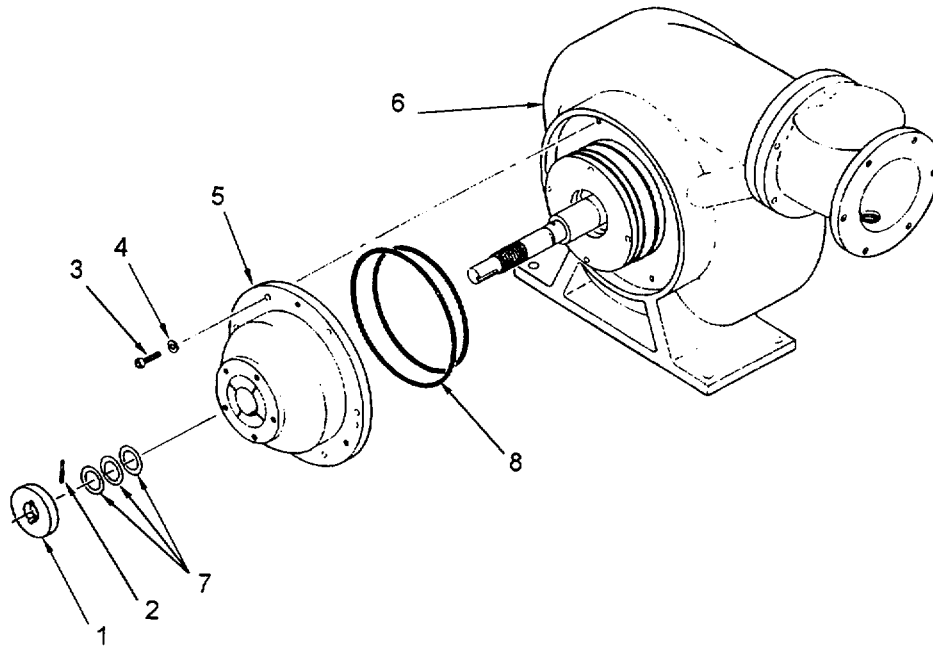

Figure 5-5. Vane Pump Housing O-Ring Replacement
5.4.3 Replace Fuel Transfer Pump Vane Pump Housing O-Rings. (Refer to figure 5-5.)